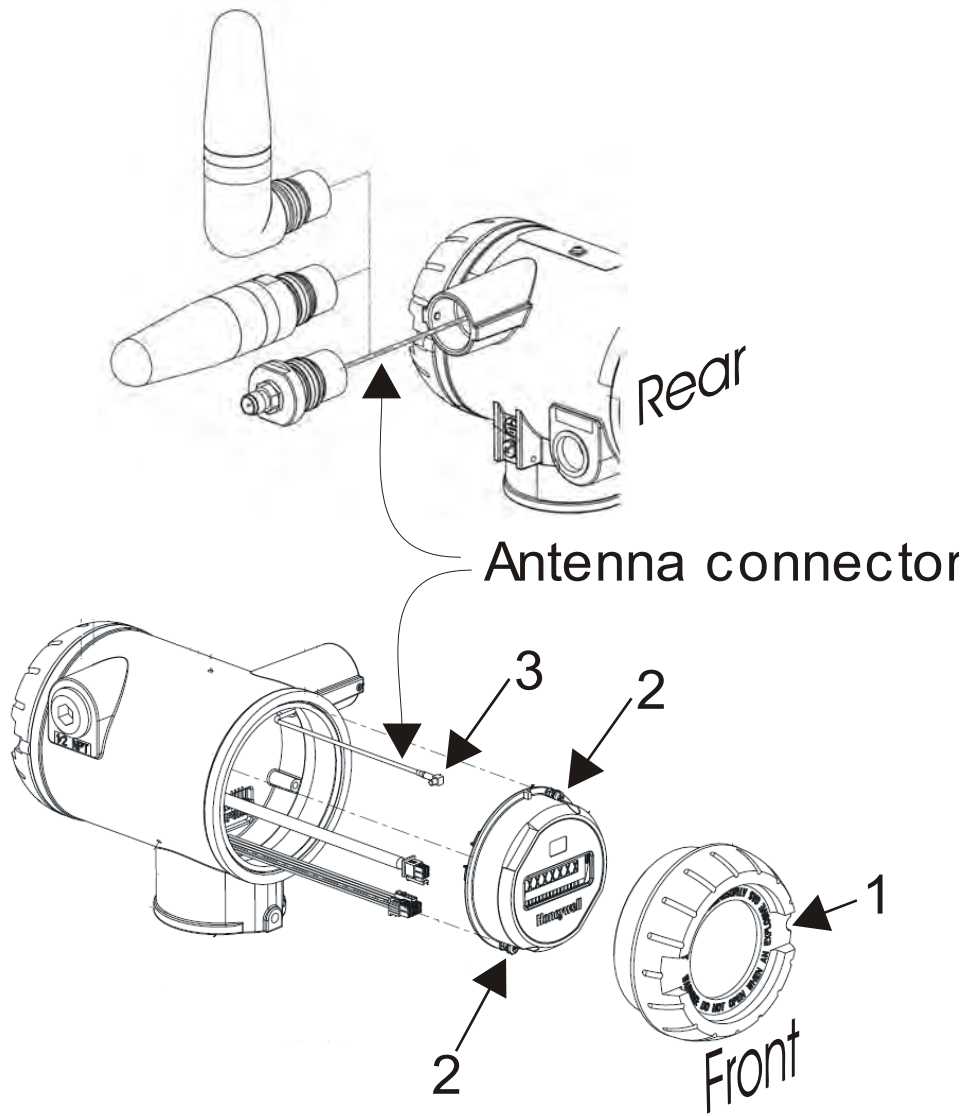

Figure 12 Antenna replacement
2	Loosen the M3 locking set screw on the display end-cap. See item 1 in Figure 12. Unscrew and remove the front end cap.
3	Loosen the two screws on the sensor module. See items 2 in Figure 12.
4	Remove the sensor module from the transmitter body and disconnect the antenna connector from CN2 connector on the sensor module. See item 3 in Figure 12.
5	Loosen the locking set screw at the antenna base. Unscrew the antenna from the transmitter. Remove the antenna and its connector from the transmitter. See Figure 12.
7	Attach antenna connector to CN2 connector on sensor module. See item 3 in Figure 12.
8	Insert sensor module. Orient in the proper viewing orientation before tightening two sensor compartment screws. See items 2 in Figure 12. Torque screws to 0,4 – 0,6 N-M (3.5 – 5.3 Lb-in).